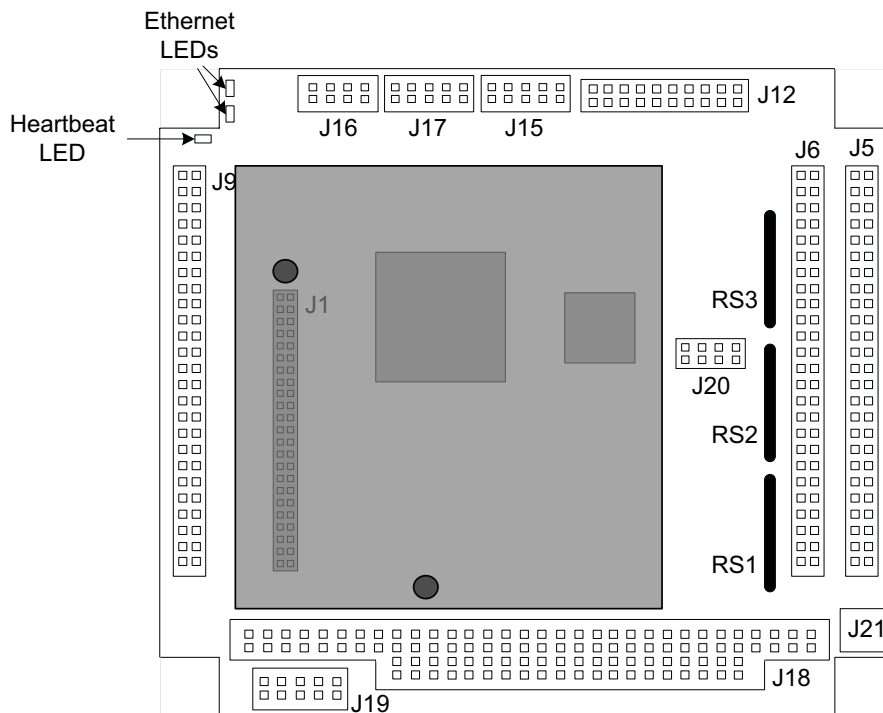

Figure 5-4:
- 1 To mount the DC-1000 to the Prodigy/CME PC/104 card, orient the card as shown in Figure 5-4 on page 96.
- 2 Position the DC-1000's parallel connector socket (DC1) over the Prodigy/CME PC/104 card's Extension Connector. Ensure that the top edge of the mating connectors are aligned. The DC1 connector socket is shorter than the Prodigy/CME PC/104 card's Extension Connector, and when the top edges of both are properly aligned, three sets of pins on the Extension Connector will be visible at the bottom of the DC-1000's connector when viewed from above the cards. Before pressing the DC-1000 into place, view the cards from the front in the same orientation as Figure 5-4 on page 96. Verify that the two sets of mounting holes are in exact alignment.